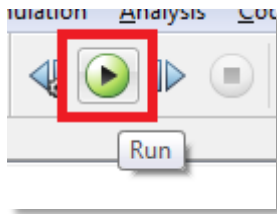
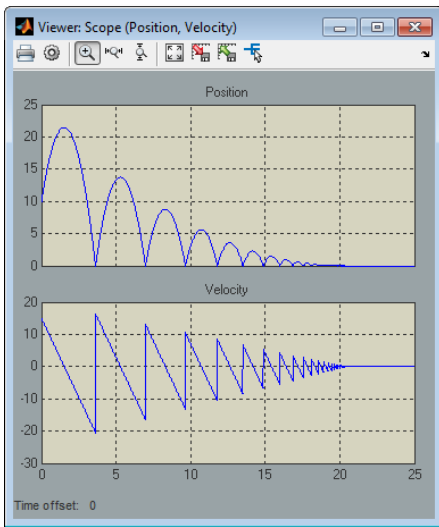

Figure 5: Run Button
Figure 7: Bouncing ball visualization
When you click on the green run button (**Figure 5**), the Simulink model that you created with built-in or custom blocks is translated to an equivalent differential equation. Simulink then uses one of the built-in differential equation solvers, to solve this differential equation over time, and consequently, simulate the dynamic behavior of the system.
- c. Run the model by clicking on the green **[Run] (Figure 5)** button to run the simulation and observe the behavior (**Figure 7**).